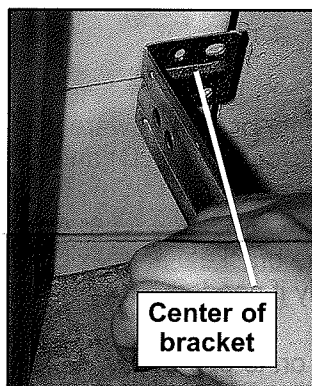

FIG. 2 Mount brackets
- Center bracket on your mark (**Fig. 2**).